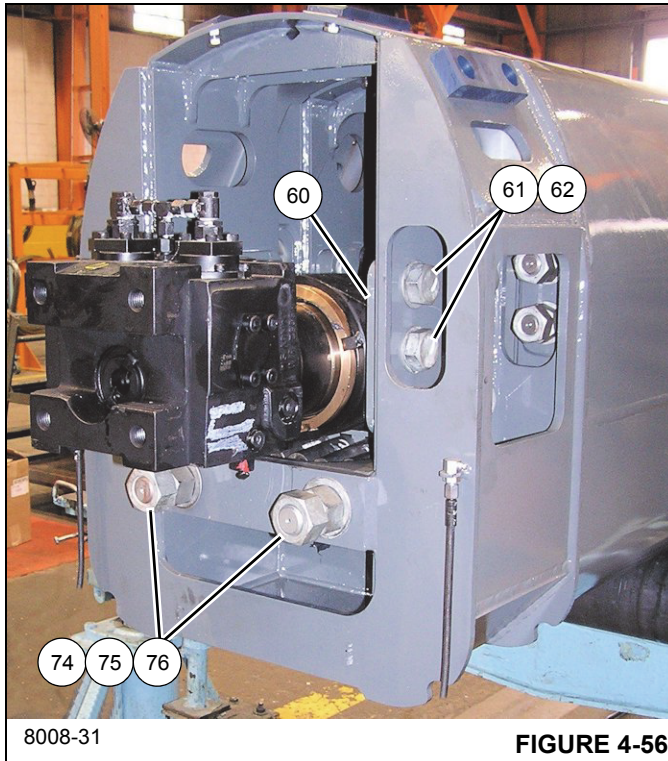

FIGURE 4-56
106. Attach the trunnion plate (60) to the inside of tele 1 (2) using the five bolts (62) and flat washers (61) (left and right sides) (see Figure 4-56).
**107.** Install the two bolts (76) that pass through the anchor plate (73) into the holes in the rear of tele 1 (2), then secure in place with the four nuts (75) and two (flat washers (74) (see Figure 4-56).
**108.** Mount the wear pad assembly (82) to each side of the bottom rear of tele 1 (2) using the two capscrews (83).
**109.** Mount the wear pad assembly (71) to each side of the bottom rear of tele 1 (2) using the two capscrews (83) and lock washers (72).
**110.** Attach the grease hose (81) and related parts (79, 80, 77, 78) to each rear top wear pad (59), then install the wear pad/grease hose assembly into the attaching bracket on each side of tele 1 (2).
**NOTE:** Do not allow the wear pad (59) to hang from the grease hose, as the threads of the wear pad can be damaged. If wear pad threads are damaged, replace the wear pad; do not try to repair with thread tape.
**111.** Position the base section (1) up side down and behind tele 1 (2); set the base section (1) on adequate supports.
**112.** Using a grease gun or brush, apply grease to the inside of the base section (1) in the areas where the tele 1 rear wear pads will touch upon assembly.
**113.** Align the base section and tele 1 with each other, then partially insert the tele 1 (2) into the base section (1).
**114.** Use the shims (70) to adjust the tele 1 rear wear pad assemblies (71, 82) such that the wear pads are within